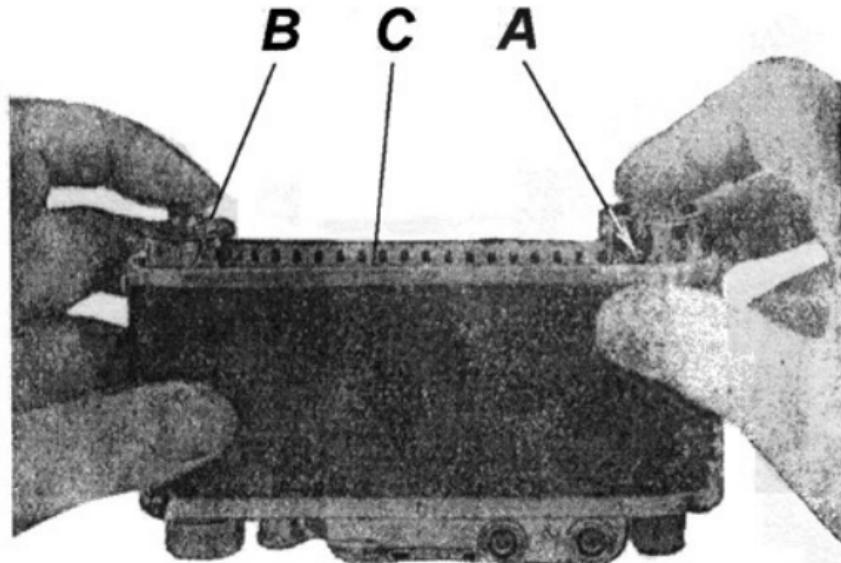

Fig. 11
4. With the camera lying on its top (fig. 11), hold cassette "A" with the right hand and takeup spool "B" with the left. Insert both simultaneously into the camera. Slide the film into the channel "C". If the film cassette does not sit properly, turn the rewind knob a bit until the cassette fits properly.